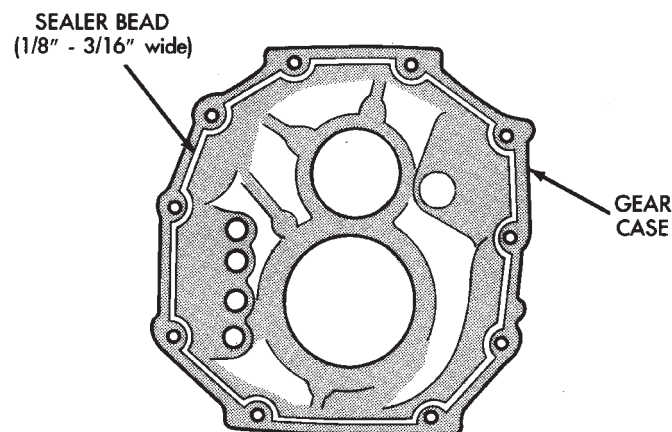

Fig. 33 Apply Sealer to Transmission Gear Case
- (1) Remove any residual sealer from transmission case, intermediate plate, and adapter/extension housing.
- (2) Apply a 1/8 to 3/16 inch wide bead of Threebond® Liquid Gasket TB1281, P/N 83504038, as shown, making sure to keep sealer bead to inside of bolt holes (Fig. 33).